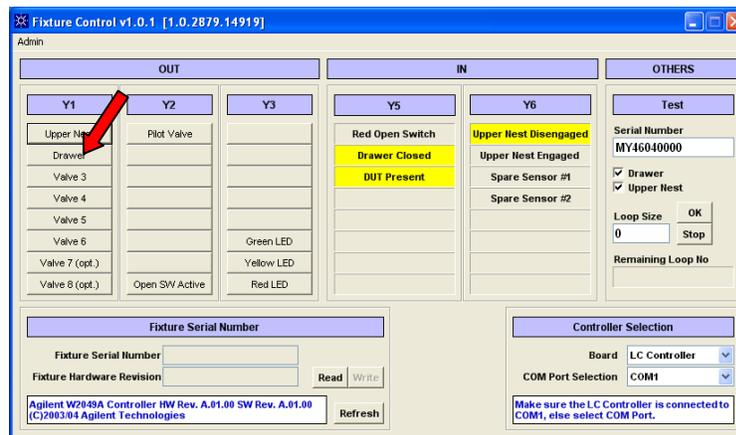

Figure 38: Clicking the *Drawer* tab to open the drawer
- Next, click the *Drawer* tab in UI to open the drawer base as shown in Figure 38.